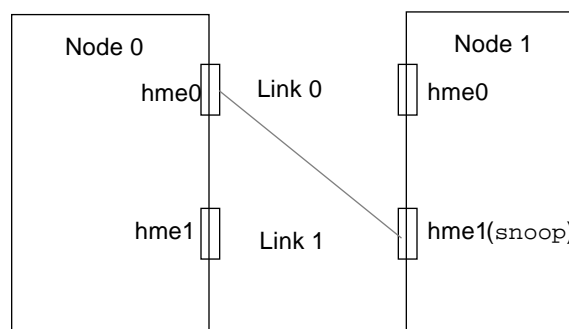

Figure 3-4 Private Network Link 0 Troubleshooting
2. **See Figure 3-4 and remove the Link 1 cable (cable between the hme1 ports of both nodes).**